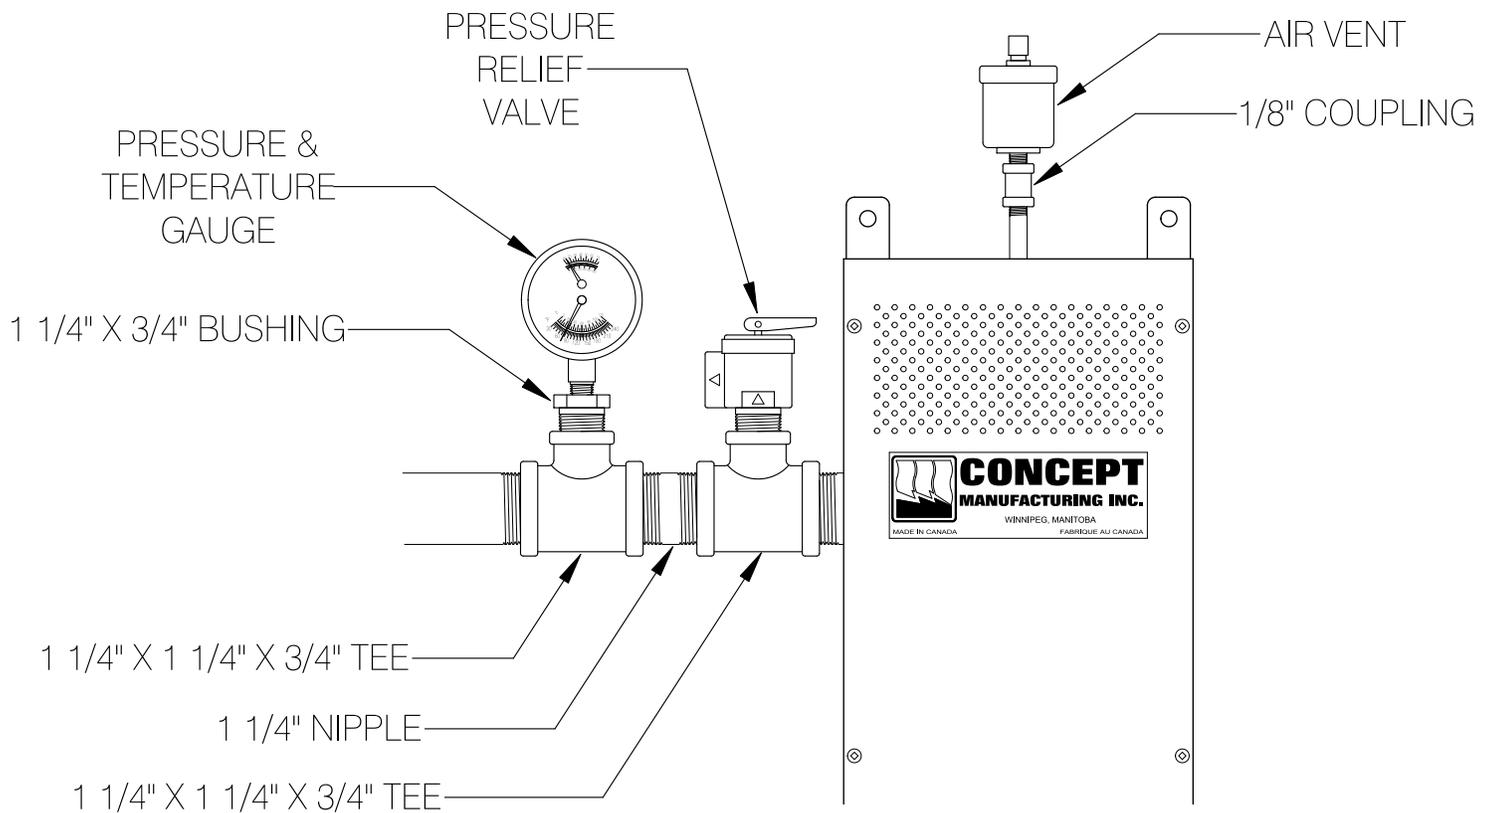
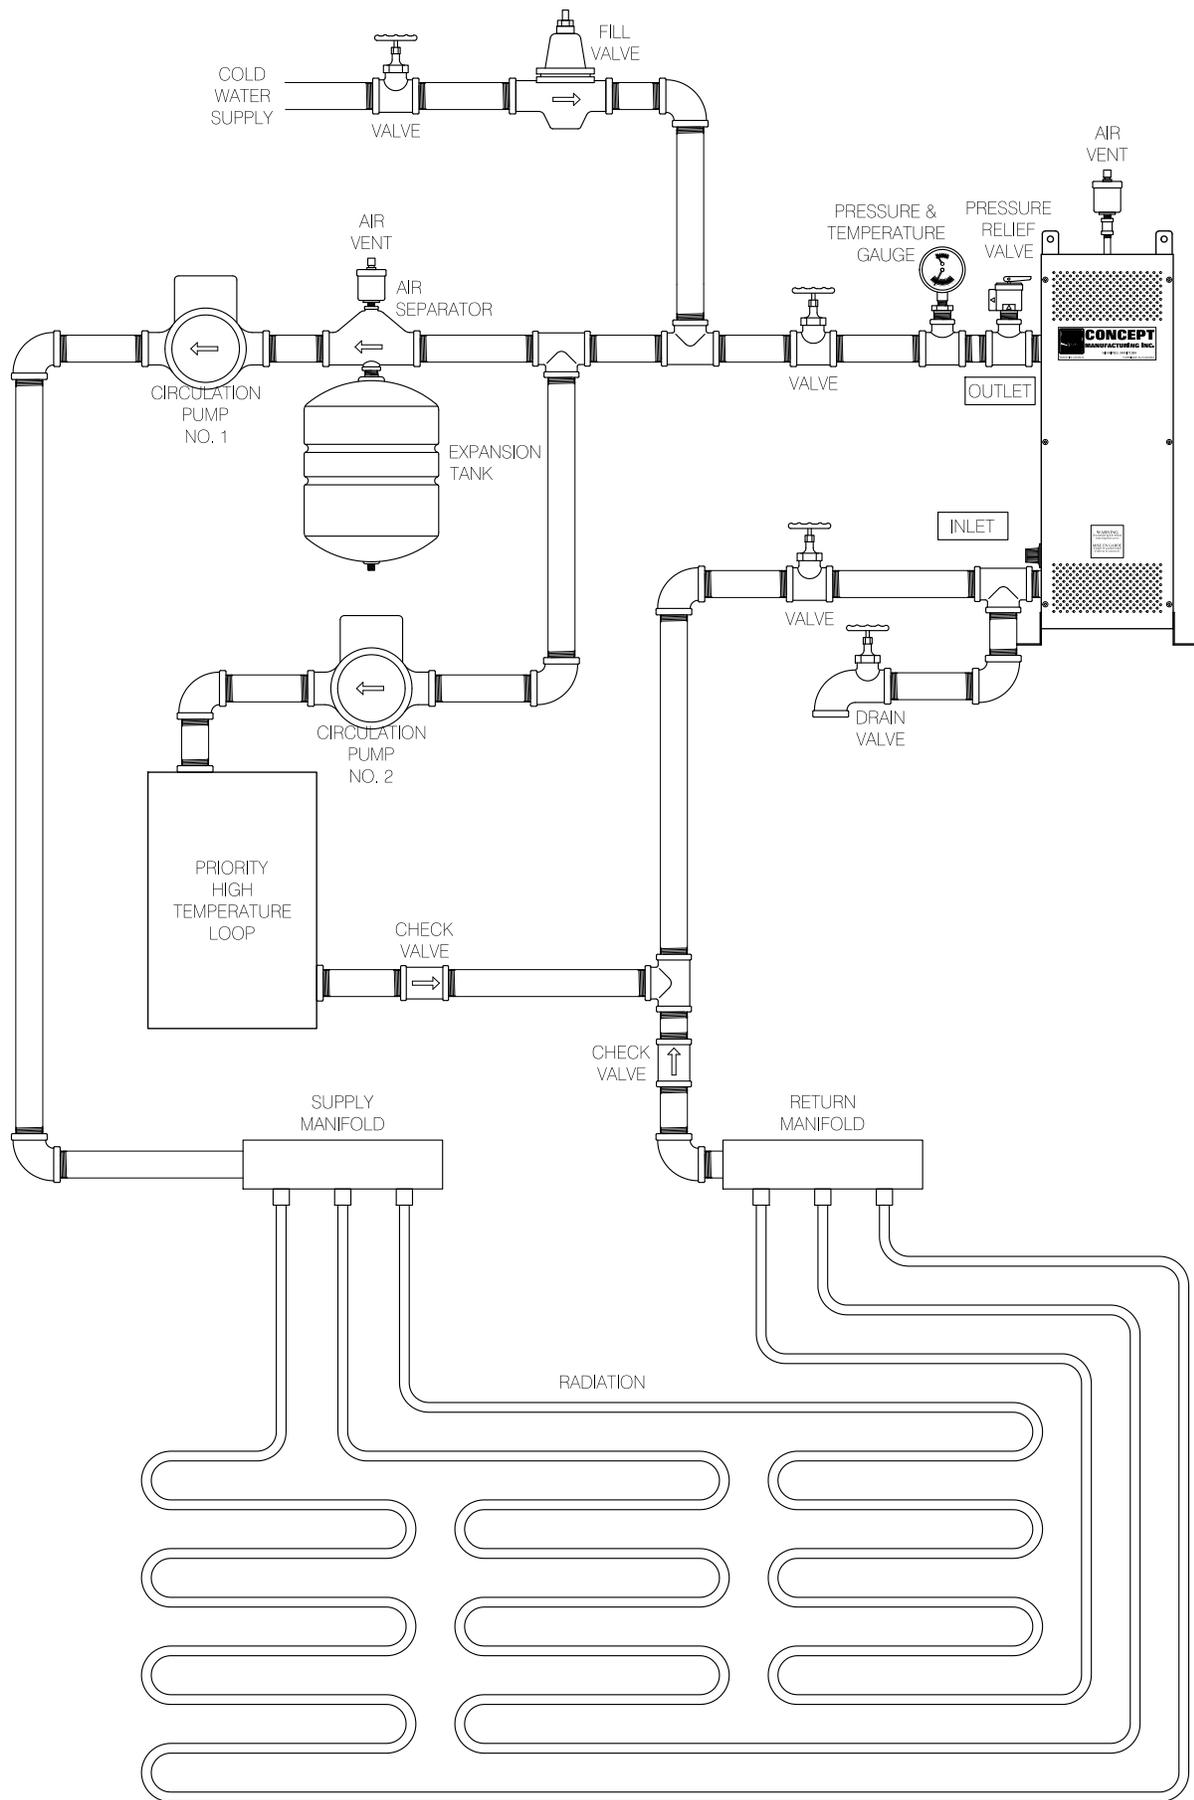

FIG. 1 BOILER COMPONENTS
FIG. 3 TYPICAL HEATING SYSTEM
- (5) The circulation pumps should be connected to the outlet side of the boiler (see Fig. 3).
- (1) Refer to Fig. 3 for a typical system before installation.
- (2) Packed with your boiler are the following.
- (3) Mount unit as per instructions under "Location"
- (4) Install Pressure Relief Valve and Pressure & Temperature Gauge. These must be connected directly to the boiler as shown in Fig. 1
- (5) A discharge line must be attached to the outlet of the pressure relief valve. The discharge line will direct water or steam from the pressure relief valve should it open. The discharge line must be as short as possible, not have any valves or restrictions, not be smaller than the outlet of the pressure relief valve, slope downwards, and the end must be open to the atmosphere. The discharge line should terminate at a drain 6 inches above the floor level.
- (6) Install inlet and outlet piping.
- (7) An expansion tank must be installed (see Fig. 3) to allow for water expansion as the system is heated.
The circulation pumps should be positioned as close to the boiler as possible, with the delivery arranged to pump out of the tank outlet on the upper left side of the boiler (see Fig. 3).